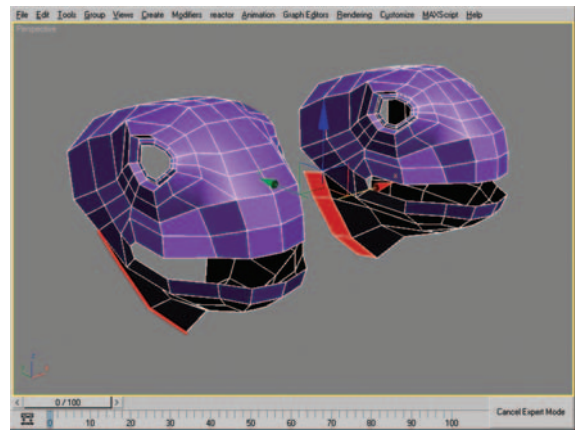

Figure 9.26 Edge selection and resulting polygons after performing shift-drag.
26. Select the three edges seen in Figure 9.26 (left), and shift-drag them to create three new polygons (Figure 9.26, right).